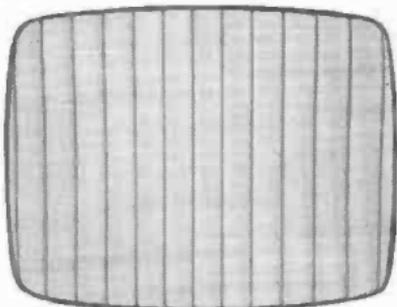

Fig. 8—Vertical bar generator running at a non-integer ratio to the line frequency. (Useful for checking if hum is present on the line timebase.)
Figure 8 shows an interlace setting with the vertical bar generator running alone. This pattern is in fact an interchange of black and white sections on alternate lines, giving black (625) or white (405) thin bands whose width is equal to the difference between the normal black and white bar widths. A setting can be found where the vertical bands are very narrow and this setting is quite sensitive to hum on the television receiver line sync circuits. If this receiver fault is present, the vertical bands will "wriggle".